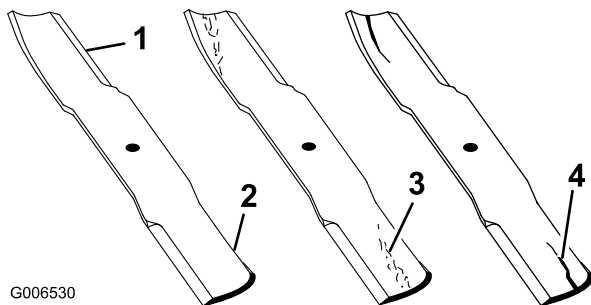

Figure 71
1. Inspect the cutting edges (Figure 71). If the edges are not sharp or have nicks, remove and sharpen the blades. Refer to Sharpening the Blades.
2. Inspect the blades, especially the curved area (Figure 71). If you notice any cracks, wear, or a slot forming in this area (item 3 in Figure 71), immediately install a new blade.